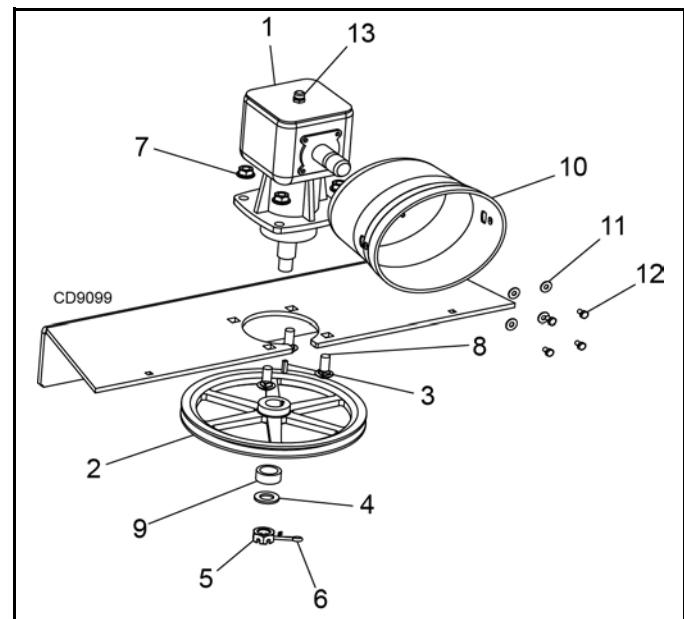

Figure 23. Gearbox Stand Assembly
## Remove Gearbox from Mower (Figure 23)
2. Remove vent plug (13) and siphon gear lube from housing through this opening. See Figure 23.
3. Remove cap screws (12) and washers (11) to remove drive shield (10) from gearbox.
7. Remove flange lock nuts (7) and carriage bolts (8) from gearbox mounting. Remove gearbox from mower by lifting gearbox up and sliding toward the front of the mower.
8. Remove cotter pin (6), castle nut (5), washer (4), and sleeve (9) from gearbox output shaft.
9. Remove drive sheave (2) and key (3) from gearbox output shaft.
### Install Gearbox (Figure 23)